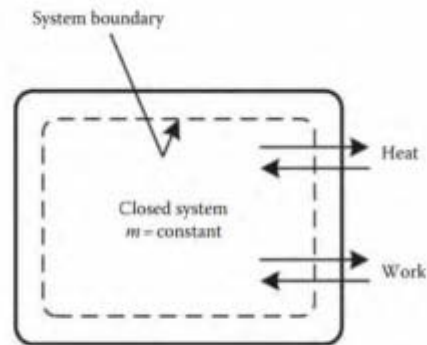

FIGURE 1.1 Energy balance for a closed system.
- Energy can cross the boundaries of a closed system in the form of heat and work (Figure1.1).